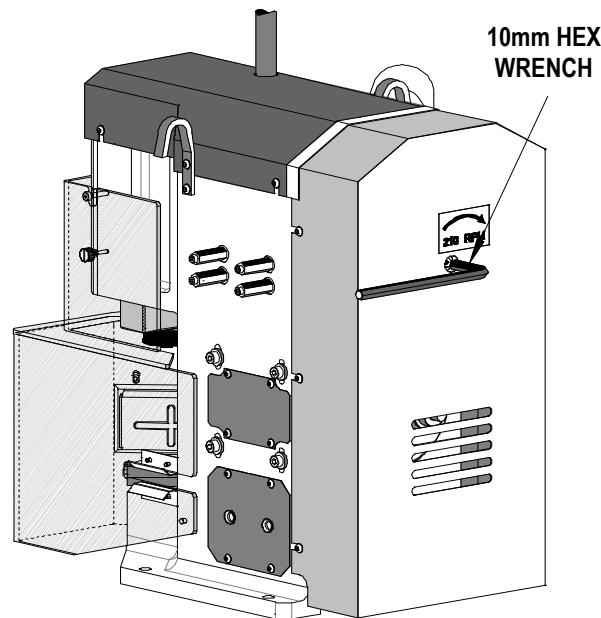

Figure 3-2
1. Insert the 10mm hex wrench through the access hole in the center of the rear cover and locate it in the M12 SHCS. See Figure 3-2.